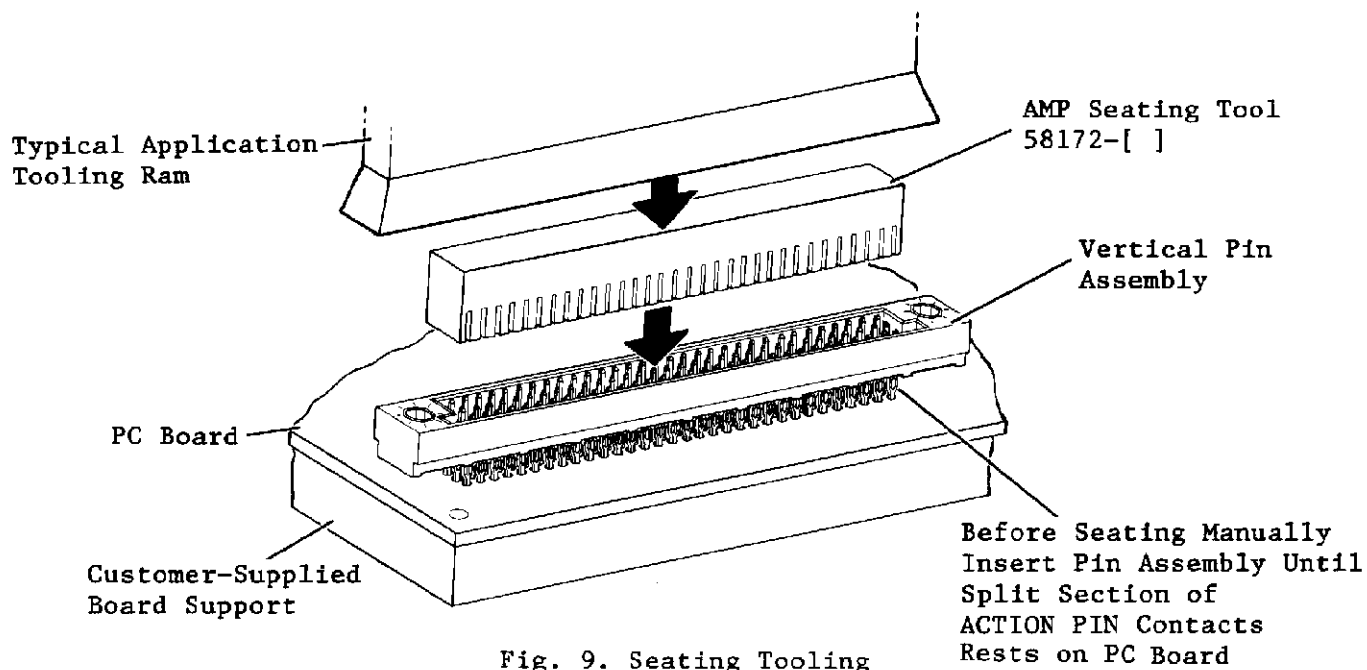

Fig. 9. Seating Tooling
4.5. Vertical pin assemblies with ACTION PIN contacts shall be seated with the assistance of the following tools as shown in Figure 9.